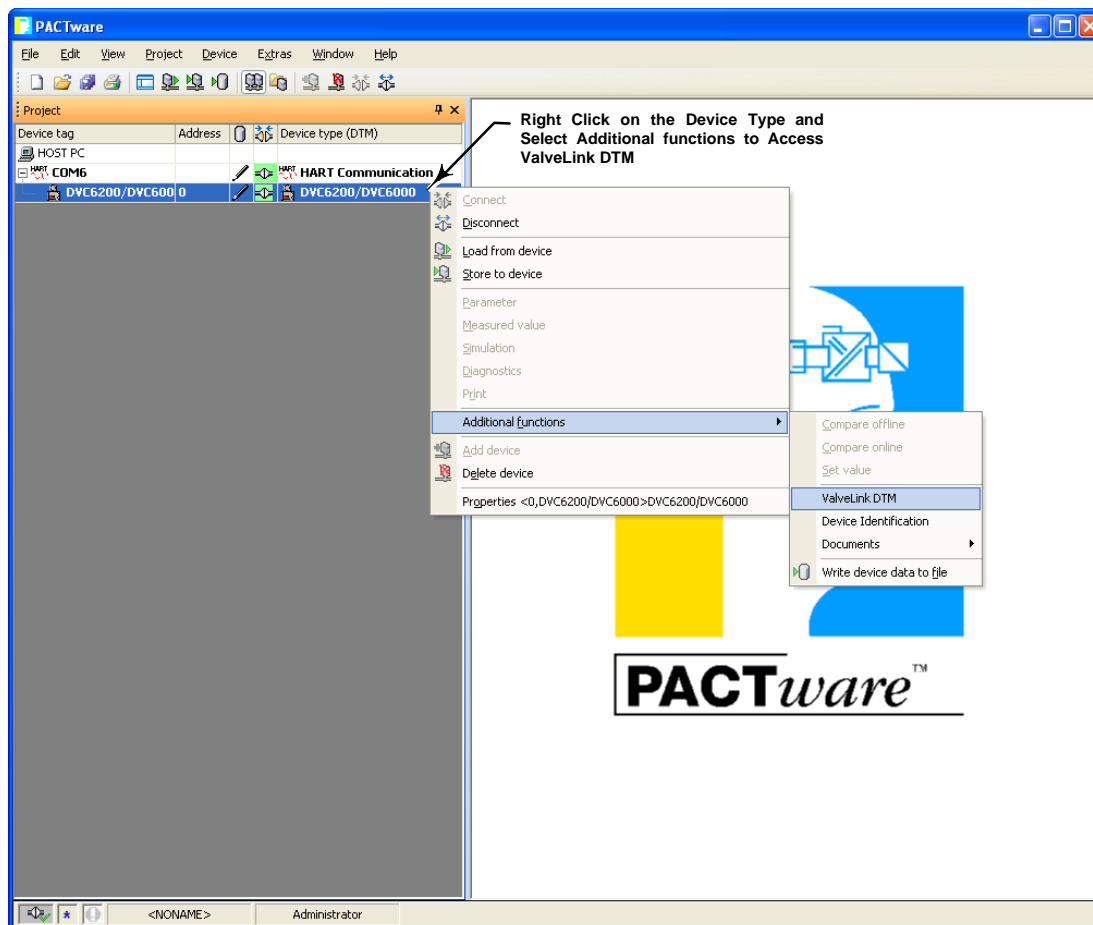

Figure 4-6. Select ValveLink DTM
**Step 6:** Once connected, select ValveLink DTM as shown in figure 4-6.